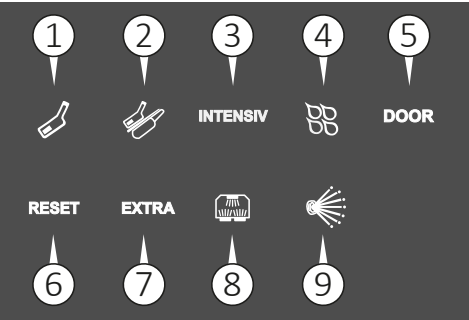

Fig. 10
- 5) Insert technician password "****": press button 1-Urinals program (1 Fig. 10) four times.
- Use buttons 3 and 4 (Fig. 10) to navigate back and forth the menu.
- Press button 1 (Fig. 10) to access the entry of the menu selected.
- Within the parameter, use buttons 3 and 4 (Fig. 10) to change the value of the red parameter and press button 1 to confirm.
- Press buttons 1 and 2 (Fig. 10) to go back and forth to the other blue parameters.